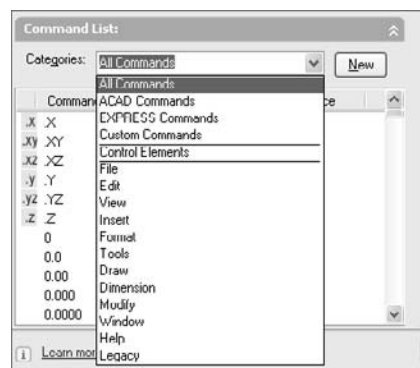

Figure 3.15
5. Select All Commands in the Command List pane, as shown in Figure 3.15. Note that you can list commands in the following groups: